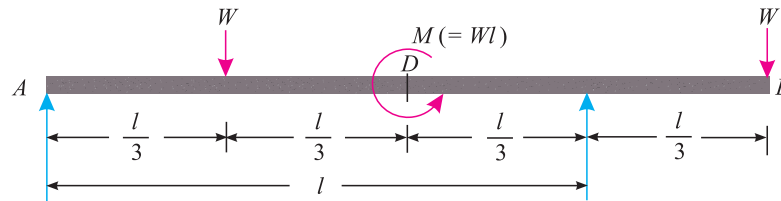

Fig. 13.66
4. Calculate the reactions at A and B for the beam shown in Fig. 13.66 and draw the bending moment diagram and shear force diagram. [Ans. $\frac{4W}{3}$; $\frac{2W}{2}$]